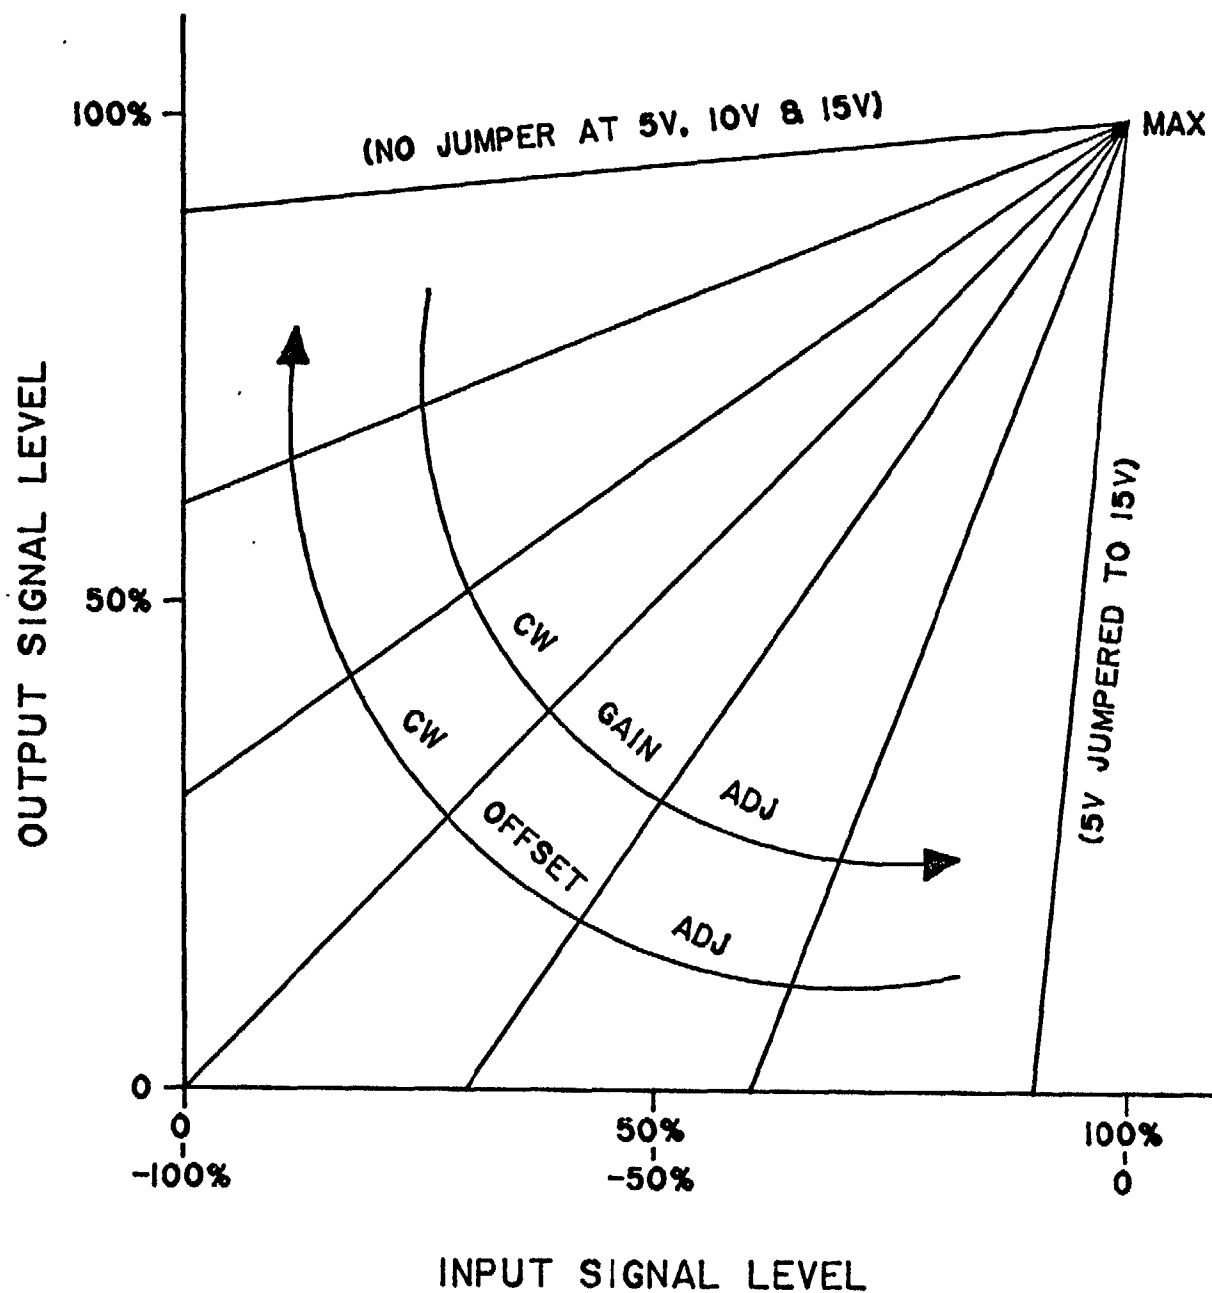

FIGURE 48
The **GAIN** and **OFFSET** potentiometers may be adjusted to provide a wide range of Follower card output signal versus input signal characteristics, as shown in Fig. 48, with the output signal being the reference input to the Regulator card, and finally the speed of the AC motor. The input signal can be either positive or negative, increasing from zero or some minimum up to a maximum level, or decreasing from a maximum level to a minimum or zero level, to produce the desired increasing output signal. The input signal connection rule that must be followed is that
The adjustment directions of the **GAIN** and **OFFSET** potentiometers to achieve the desired output versus input characteristics are shown in Fig. 48, with the arrows indicating the results of adjustment in the clockwise (CW) directions. In order to achieve the maximum or minimum gains possible, the 5V to 15V card posts are jumpered for maximum gain, and none of the 5V, 10V and 15V posts are jumpered for minimum gain. The lines shown in Fig. 48 are representative of the different output versus input characteristics which can be achieved between the two limit lines.